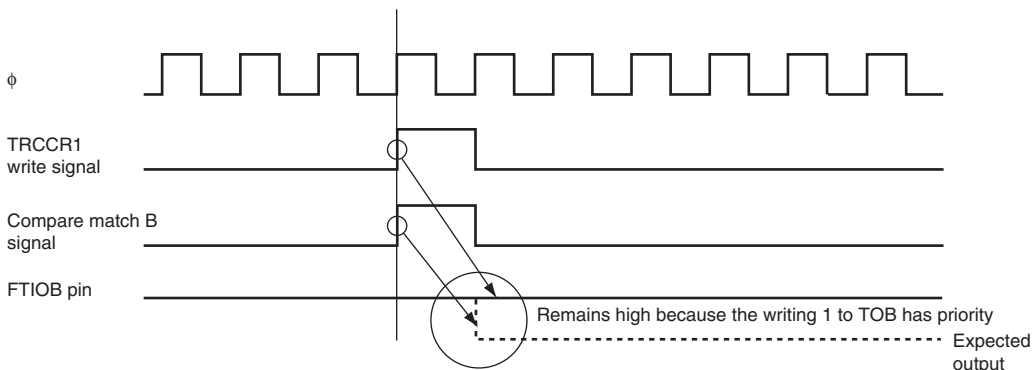

Figure 13.35 When Compare Match and Bit Manipulation Instruction to TRCCR1 Occur at the Same Timing
5. The TOA to TOD bits in TRCCR1 decide the value of the FTIO pin, which is output until the first compare match occurs. Once a compare match occurs and this compare match changes the values of FTIOA to FTIOD output, the values of the FTIOA to FTIOD pin output and the values read from the TOA to TOD bits may differ. Moreover, when the writing to TRCCR1 and the generation of the compare match A to D occur at the same timing, the writing to TRCCR1 has the priority. Thus, output change due to the compare match is not reflected to the FTIOA to FTIOD pins. Therefore, when bit manipulation instruction is used to write to TRCCR1, the values of the FTIOA to FTIOD pin output may result in an unexpected result. When TRCCR1 is to be written to while compare match is operating, stop the counter once before accessing to TRCCR1, read the port 8 state to reflect the values of FTIOA to FTIOD output, to TOA to TOD, and then restart the counter. Figure 13.35 shows an example when the compare match and the bit manipulation instruction to TRCCR1 occur at the same timing.